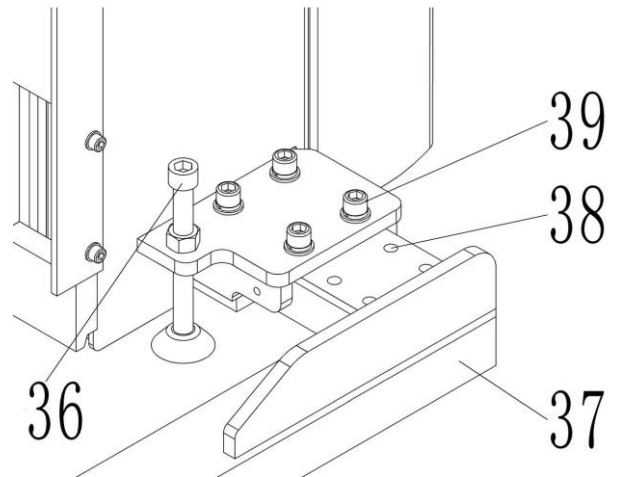

Fig.14: Adjust the legs
- Remove the safety bolt (33).
- Release fork positioning device (34).
- Tighten the positioning bolt (39) after adjusting the legs.
- When adjusting the legs, please pay attention that the number of positioning holes (38) exposed on each side of the legs should be same. (as shown in Fig. 14, if one side has 4 positioning holes(38), the other side should also be 4).
- Turn clockwise the supporting assembly(36) on both sides of the truck until jacking up the truck.
- Screwed out the positioning bolt (39).
- Adjust the leg (37) until the corresponding positioning hole (38) is adjusted to the underface of the positioning bolts (39).
When adjusting the legs, please pay attention that the number of positioning holes (38) exposed on each side of the legs should be same. (as shown in Fig. 14, if one side has 4 positioning holes(38), the other side should also be 4).
- Screw the positioning bolt (39) tightly.
- Turn anti-clockwise the supporting assembly (36) on both sides of the truck until the supporting assembly can't be turned anymore.